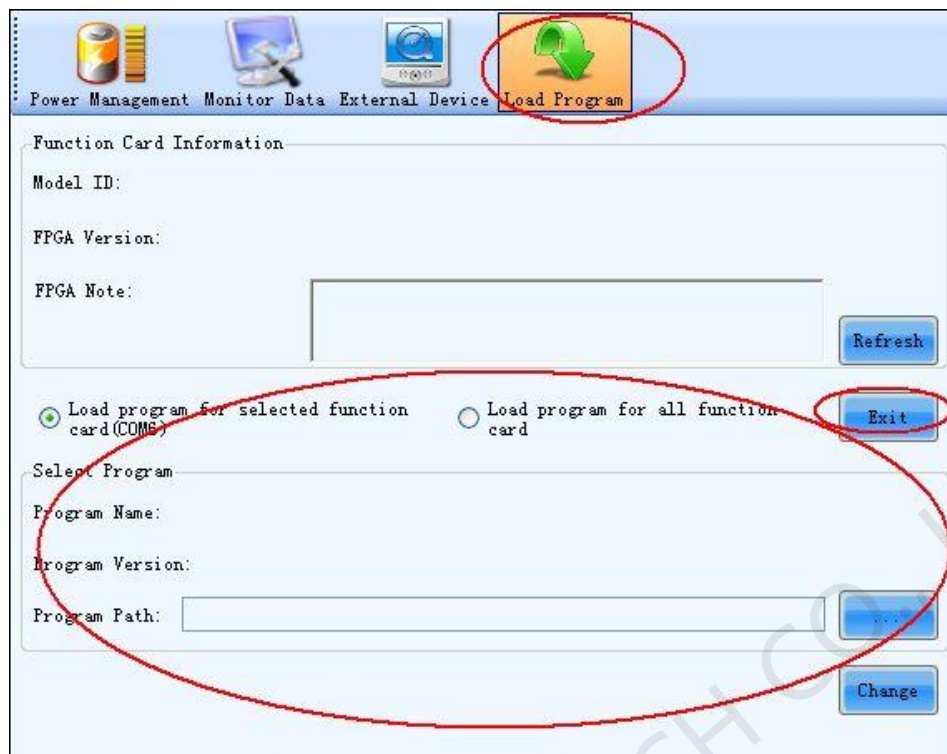

Fig. 7-81 Page with program loading options
Input **admin** directly to access the options for program loading as shown in Fig. 7-81.
1. There isn't any place to view the typing when inputting the password. Just type in the password directly and the page shown in Fig. 8-79 will change to the one shown in Fig. 7-81;